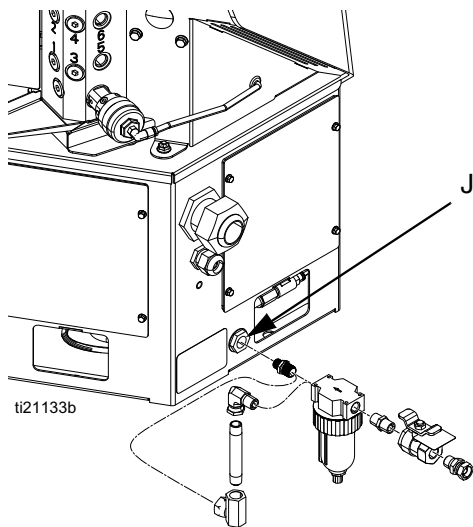

FIG. 10
- Install the supplied air inlet bleeding ball valve and air filter kit (Graco Part No. 24R707) at the 1/4 NPT female system air inlet (J). See FIG. 10.